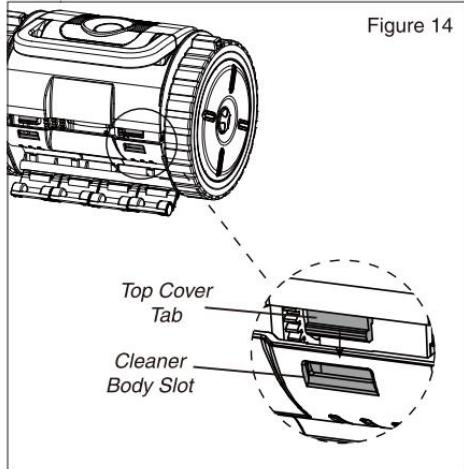

Figure 14
10. Place the tabs on the back side of the top cover into the slots on the back side of the cleaner body (See Figure 14). Once these tabs are seated in the slots the front of the cover will fall into place.